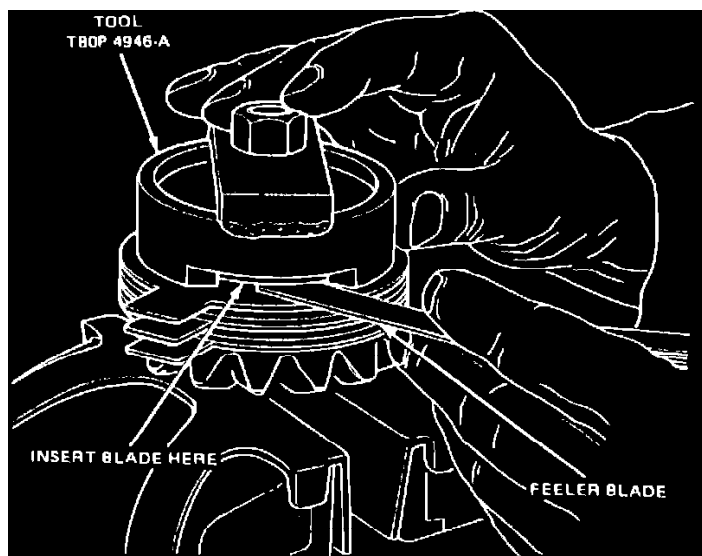

Fig. 11 Measuring shim thickness
2. Place each clutch pack without shims into tool T80P-4946-A or equivalent, **Fig. 10**. Torque nut to 40 inch lbs. Using feeler gauge, determine thickness of new shims by inserting thickest blade possible between clutch pack and tool, **Fig. 11**.